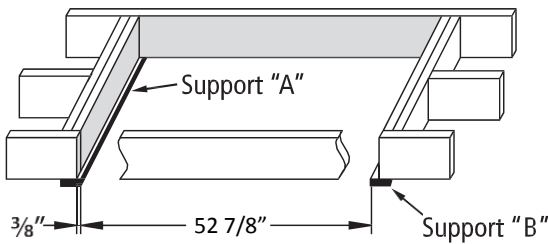

FIGURE 5: View from above
First locate support "A" at the end where the door hinge of the ladder will go. The edge of support "A" should extend into the rough opening 3/8" as shown in figure 5. Make sure both screws penetrate header above ceiling.
B. Measuring from the inside edge of support "A", locate and secure the inside edge of support "B" 52 7/8" from inside edge of support "A" (Figure 5). Make sure both screws penetrate header above ceiling.